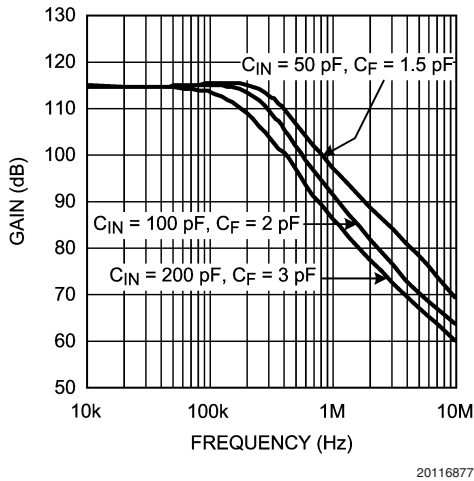

FIGURE 11. Frequency Response for $A_{TI} = 470000$
The LMV791 was used to design a number of amplifiers with varying transimpedance gains and source capacitances. The gains, bandwidths and feedback capacitances of the circuits created are summarized in Table 1. The frequency responses are presented in Figure 11 and Figure 12. The feedback capacitances are slightly different from the formula in Equation (3), since the parasitic capacitance of the board and the feedback resistor R_F had to be accounted for.